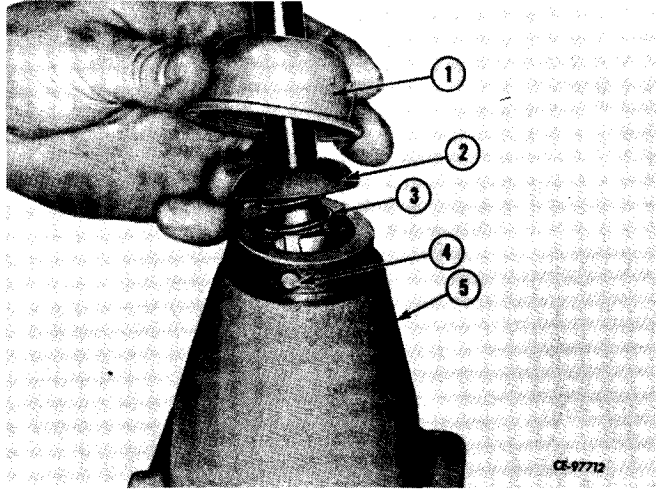

Figure 4-74
Insert shifting lever into bore of reversing housing (5, Fig. 4-74) and install pin (4) into housing and lever.